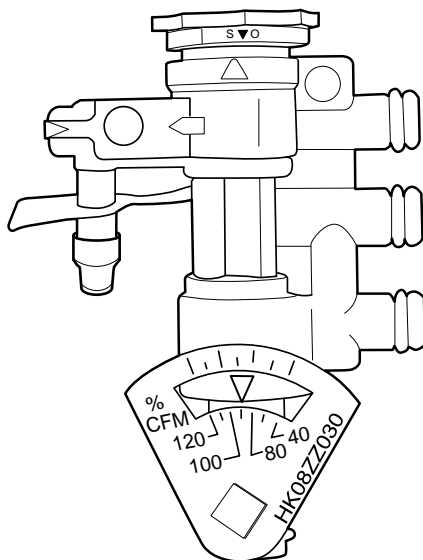
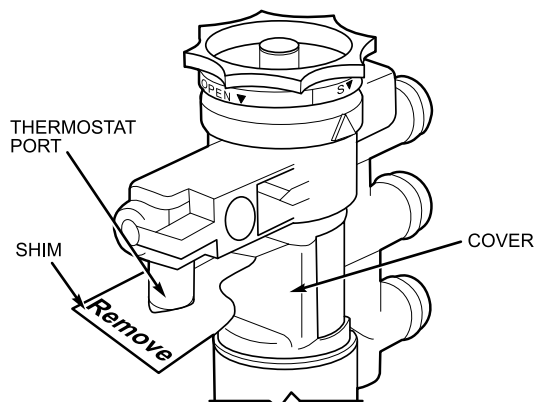

Fig. 25 — Setting Maximum Volume — 37HS Controller
Fig. 26 — Shim Removal
6. Remove cap on thermostat port of volume controller. Pull shim down until released from port and then pull shim out from body of volume controller. Discard shim. Figure 25 shows the volume controller and Fig. 26 shows the shim removal.